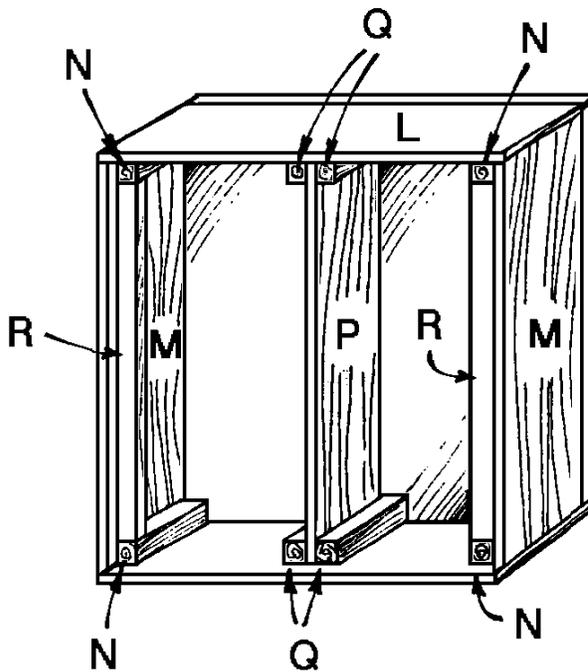

Figure 11
- Position the Center Divider (P) in the exact horizontal center of the drawer housing, flush against the Housing Back (O), as shown in *Figure 11*. Note that there will be a 2-3/4-inch allowance at the front of the drawer housing. Glue and screw the four Center Divider Supports to the Housing Bottom (L) and Housing Top (L). Using 2"-long screws, screw through the Housing Back (O) into the ends of the four Center Divider Supports (Q) and into the Center Divider (P).